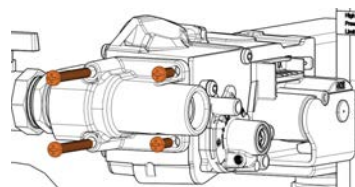

Figure 61 Screw Removal from Outlet Side of Gas Valve
4. Support the bottom of the gas valve and remove the bottom two (2) screws from the outlet side of the gas valve, then the top two (2) screws to separate the gas valve from the appliance (see Figure 61).